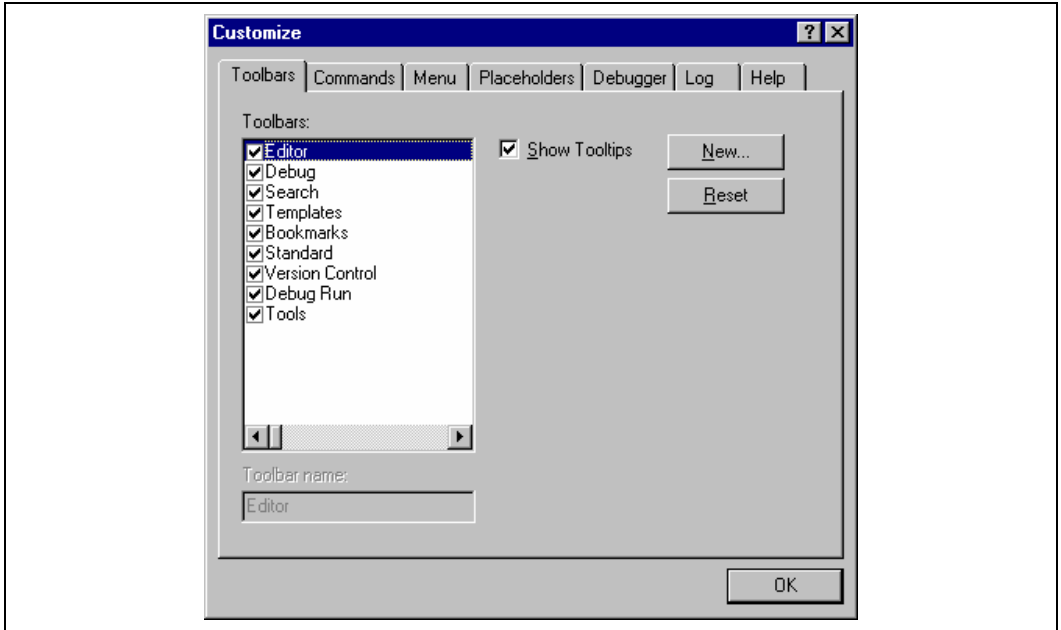
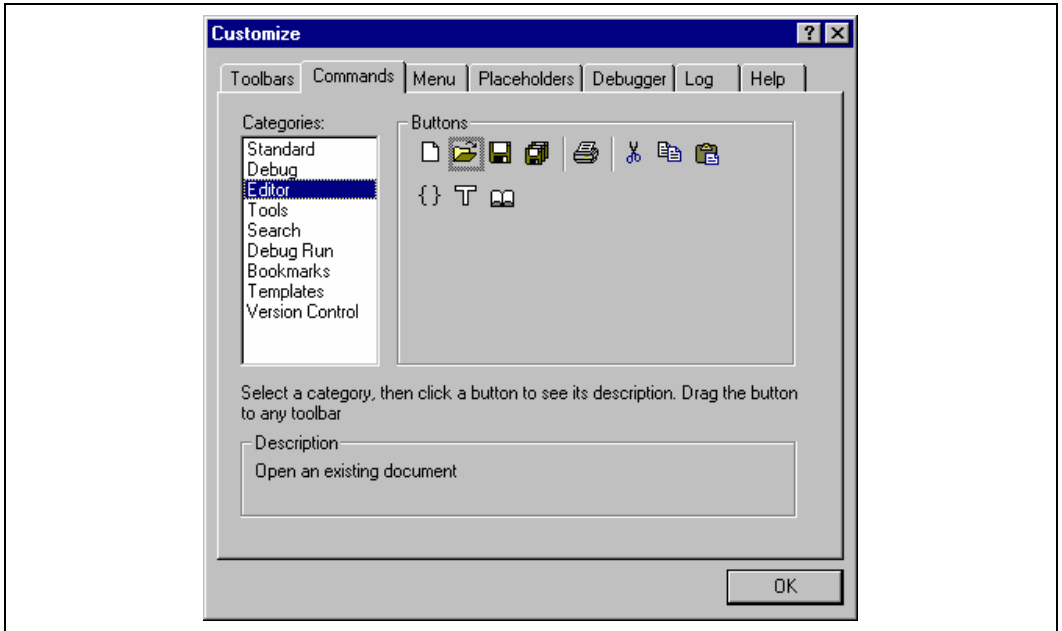
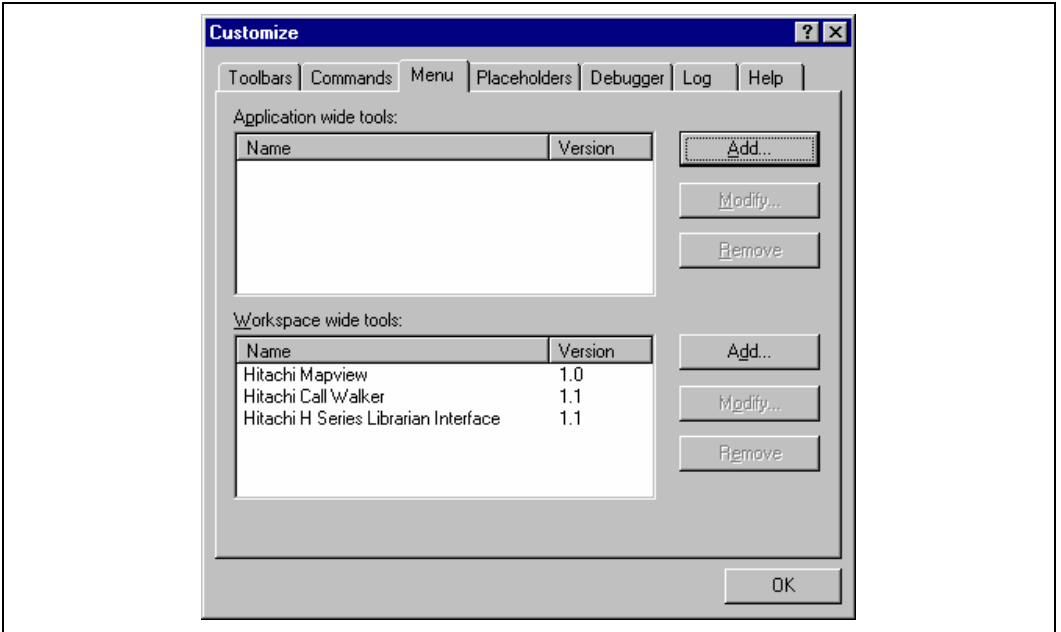
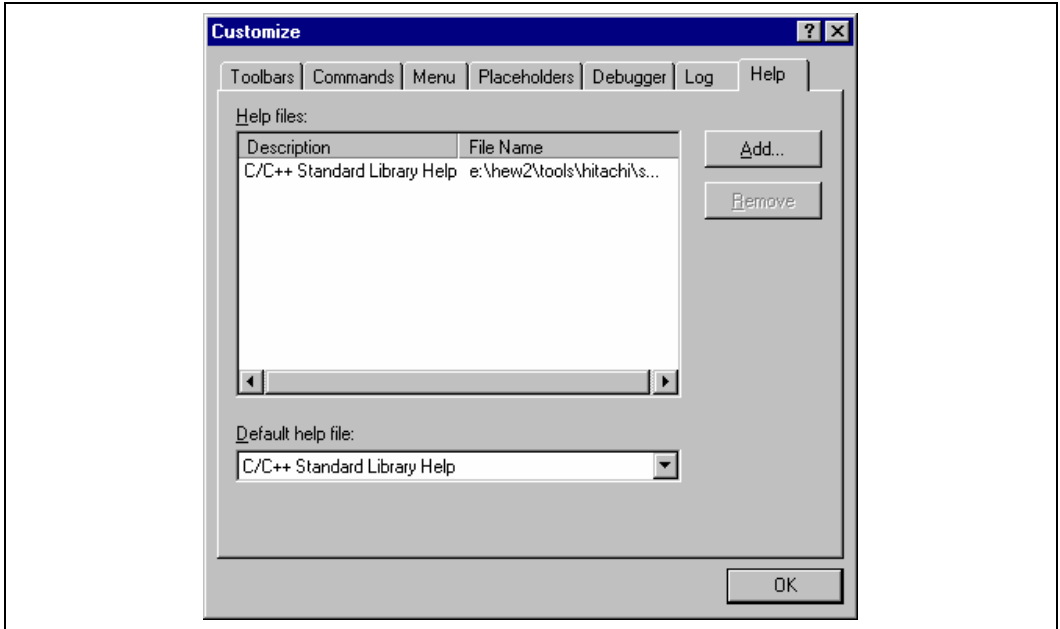

Figure 6.1: Customize Dialog Toolbars Tab
Figure 6.3: Customize Dialog Commands Tab
Figure 6.4: Customize Dialog Menu Tab
Figure 6.7: Customize Dialog Help Tab
The Hitachi Embedded Workshop provides 2 standard toolbars as detailed in chapter 1, “*Overview*”. In addition to these, you may also construct your own toolbars via the “Customize” dialog (figure 6.1).
1. Select [**Tools->Customize...**]. The dialog shown in figure 6.1 will be displayed.
1. Select [Tools->Customize...]. The dialog shown in figure 6.1 will be displayed. Select the “Commands” tab (see figure 6.3).
1. Select [**Tools->Customize...**]. The dialog shown in figure 6.1 will be displayed. Select the “Commands” tab (see figure 6.3).
2. Select the user-defined toolbar from the “Toolbars” list, and the “Reset” button in figure 6.1 changes to the “Delete” button. Then click the “Delete” button.
1. Select [**T**ools->**C**ustomize...]. The dialog shown in figure 6.1 will be displayed. Select the “Menu” tab (see figure 6.4). The first thing for you to decide is whether you are adding a global application wide tool (“Application wide tools:”), which will be available to all of your workspaces. Or whether you wish to add a workspace wide tool (“Workspace wide tool:”), which is only valid for the current workspace. Once you have made the choice choose the relevant section of the dialog.
1. Select [**Tools->Customize...**]. The dialog shown in figure 6.1 will be displayed. Select the “Menu” tab (see figure 6.4).
1. Select [**Tools->Customize...**]. The dialog shown in figure 6.1 will be displayed. Select the “Help” tab (see figure 6.7).